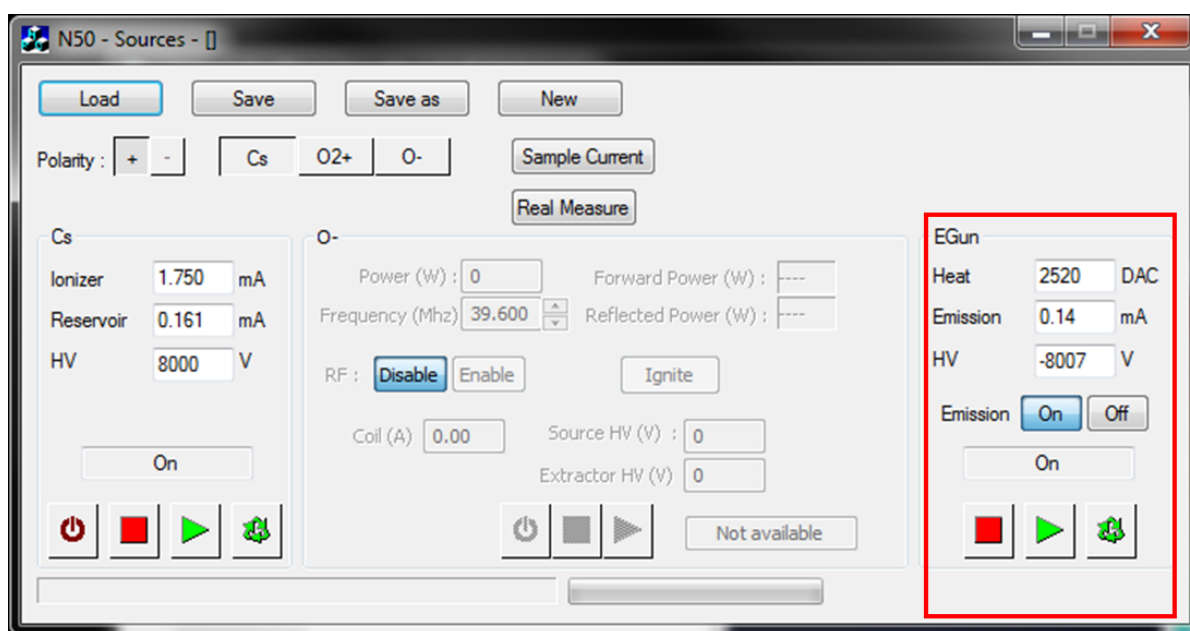

Figure 404: The e-gun controls are located on the Source window
- In the Source window (Figure 404), put the emission ON.